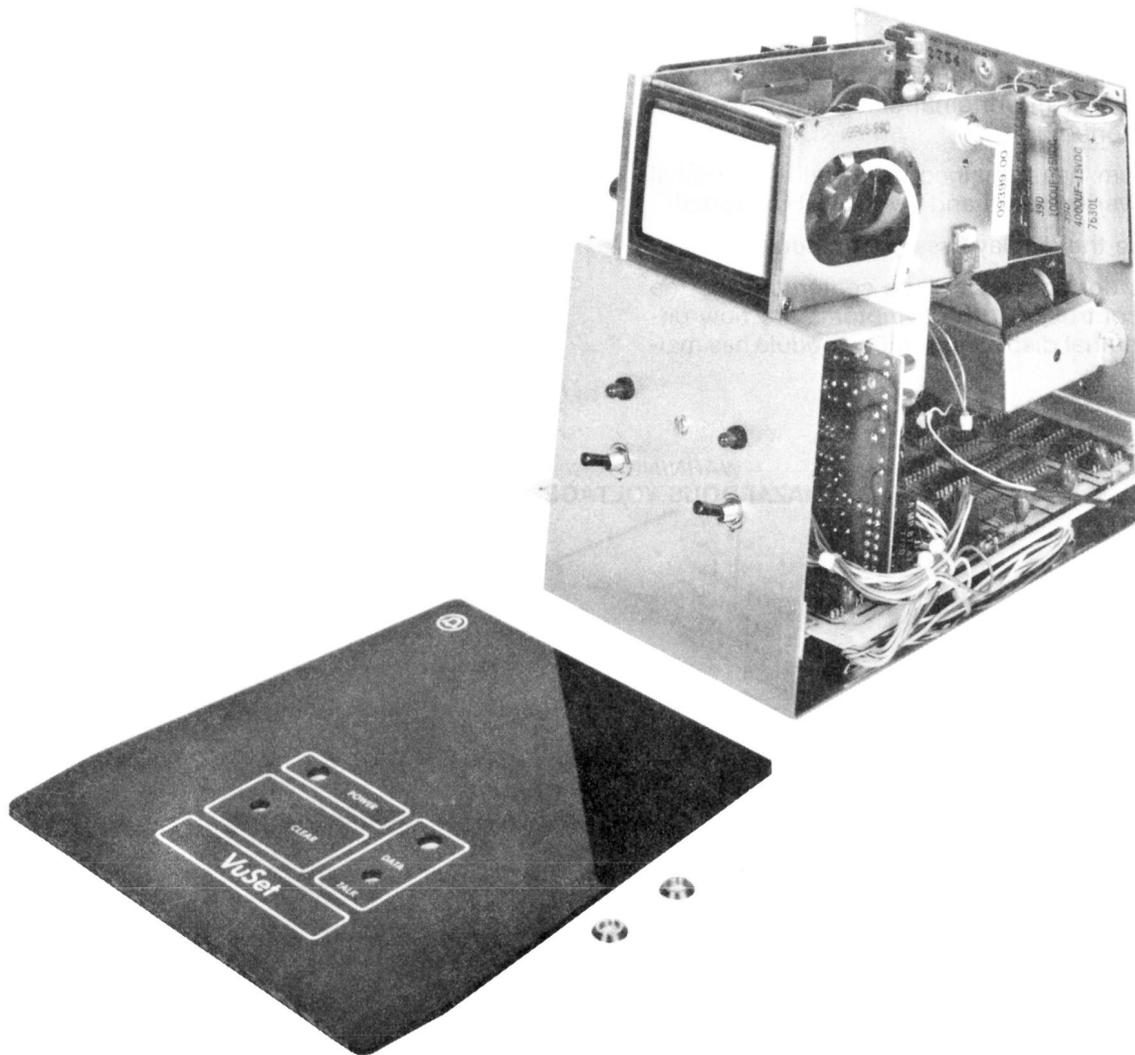

Figure 9, Front Panel Removal
- a) Remove the nuts on the DATA/TALK and CLEAR switches with a 7/16" open end wrench, being careful not to mar the plastic front panel. The front panel should now be free from the toggle switches. (See Figure 9)